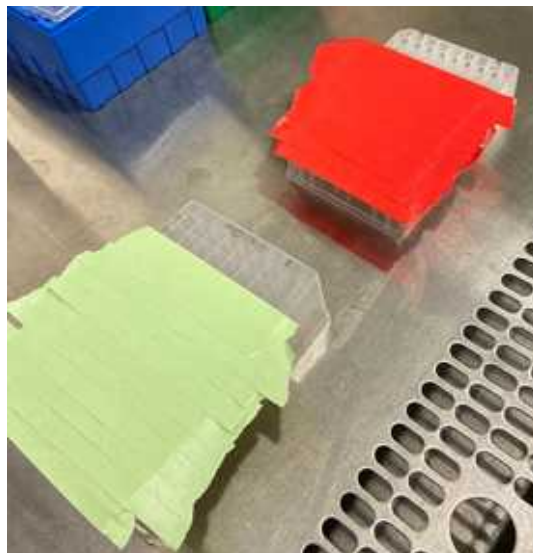

Figure 5. Tape removal from neighboring columns during sample transfer from SSP to SEP.
- Once one column of samples has been transferred, discard the pipettes, remove the tape from the next column to the left, and continue until every sample has been transferred from the SSP to the SEP (Figure 5).